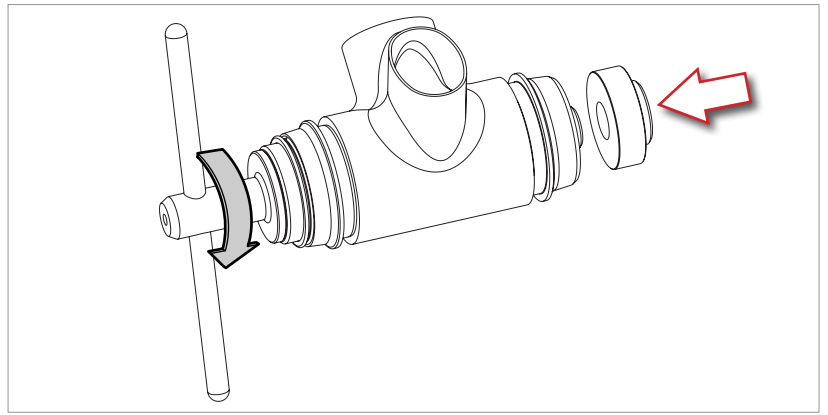

Fig.5
- Tighten the tool UT-BB240 into the left hand bottom bracket cup to bring it into contact with the bottom bracket cup itself (Fig. 5).